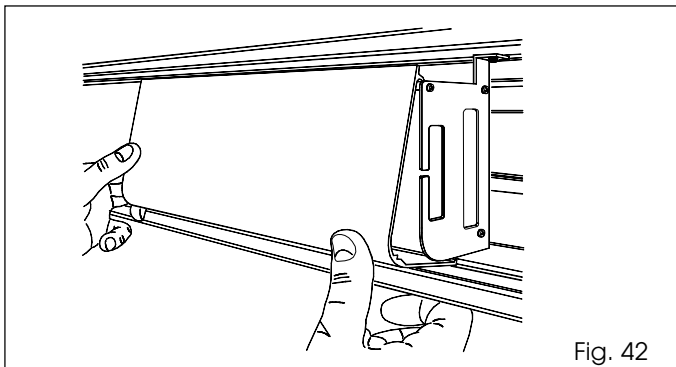

Fig. 42
- To refit it, attach it on the top part and press as shown in fig. 42.